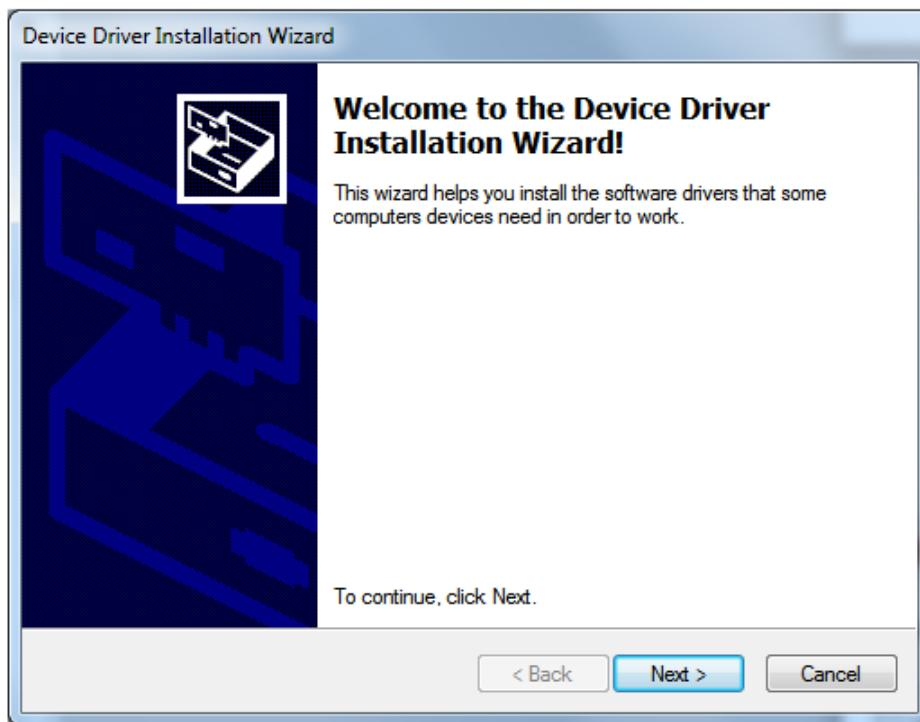

Figure 32. HSDCPro Install (Continue Driver Installation)
9. Continue Driver Installation, as in Figure 32.